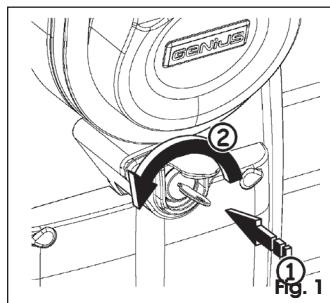

Fig. 1
1. Insert the personalised key and take the beam to its "**STOP**" position rotating it anti-clockwise until it stops, Fig.1.